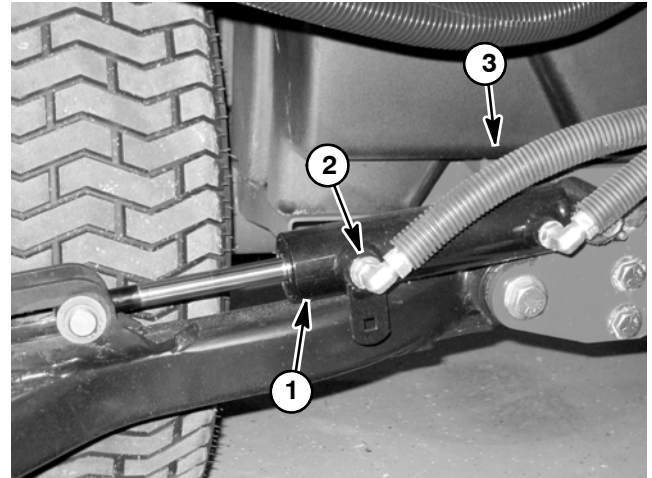

Figure 44
4. Thoroughly clean the area around the end of the hydraulic hose at the rod end of the lift cylinder for the supported lift arm. Disconnect the hydraulic hose from the lift cylinder rod end fitting (Fig. 44).